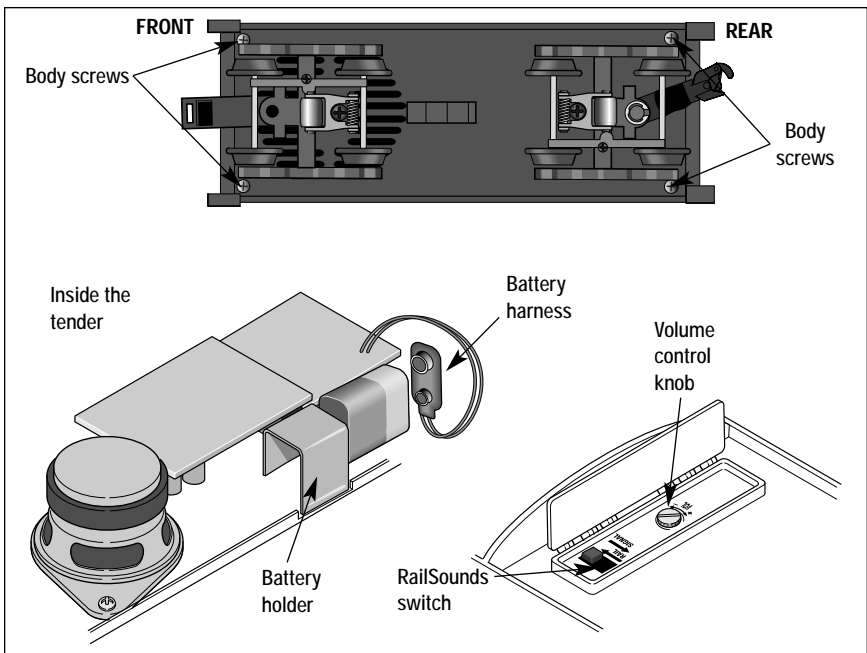

Figure 4. Battery installation
Although the RailSounds 5.0 sound system is powered through the track, we recommend that you install a nine-volt alkaline battery in the tender to prevent the sound system from shutting down during track power interruptions (for example, at a switch or a dirty section of track). Follow these steps and refer to Figure 4 as you install the battery.
1. Remove the body screws from the underside of the tender. Refer to Figure 4 for the location of the screws.